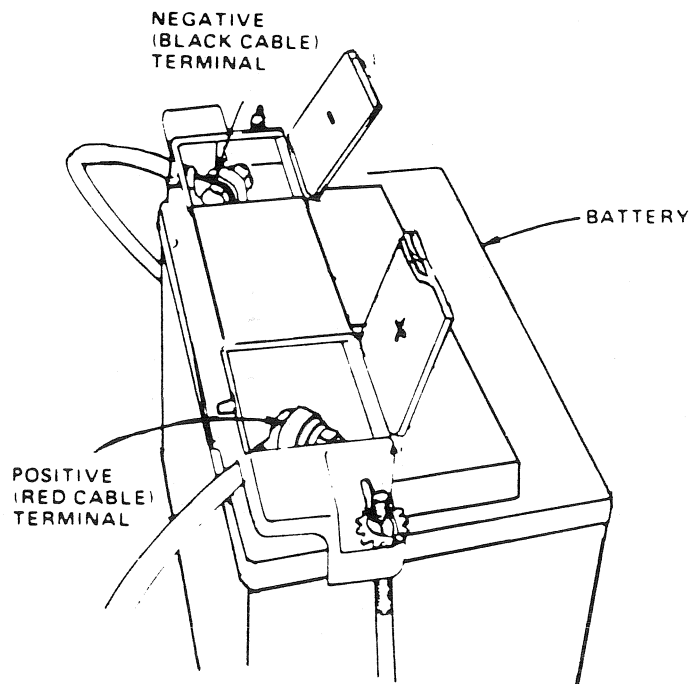

FIGURE 12
1. Open Terminal Access Doors (Fig. 12) to expose terminal connection.
2. Connect each end of the RED cable to the POSITIVE (+) terminals of each battery (taking care not to short against chassis) (Fig. 12).
6. Close Terminal Access Doors (Fig. 12).